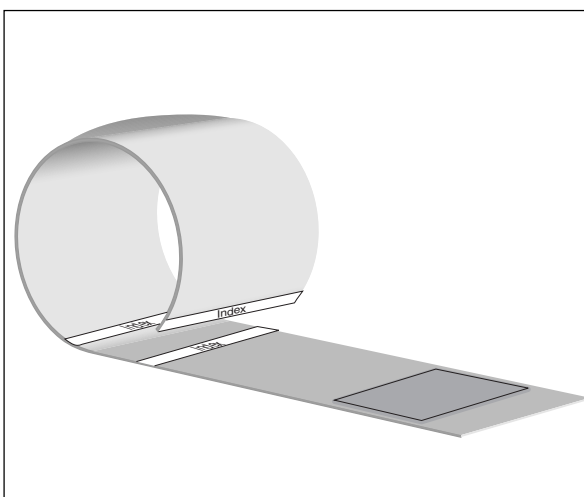

Fig. 4-2 Applying the cuff
- the dashed white line at the end of the cuff is located between the two dashed **Index** lines when you close the cuff (if this is not the case, select another cuff size, Fig. 4-2)